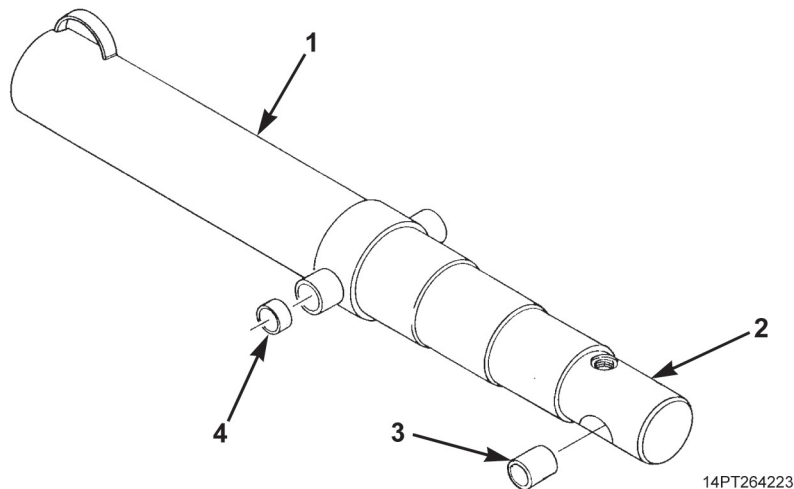

Figure 19. Bushing Removal.
27. If worn or damaged, remove two bushings (Figure 19, Item 4) from barrel (Figure 19, Item 1) and bushing (Figure 19, Item 3) from plunger (Figure 19, Item 2).